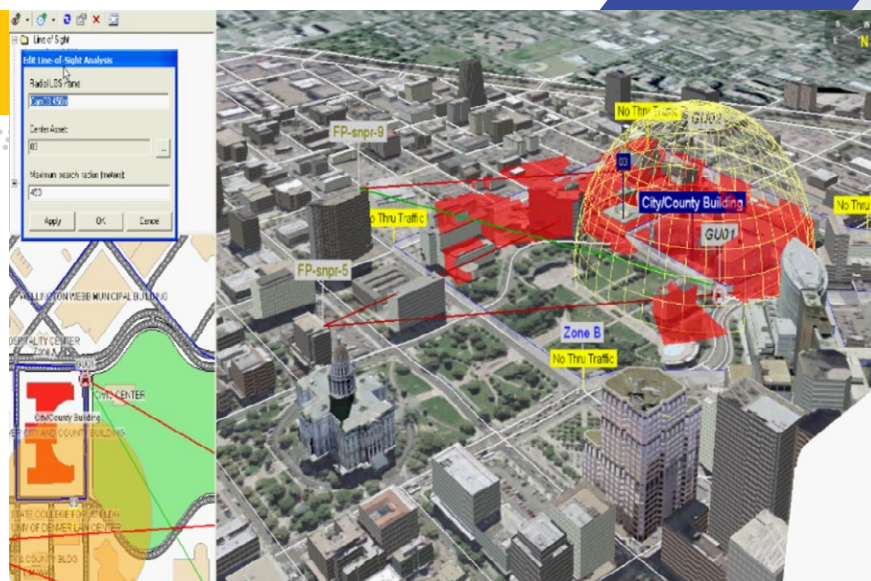

Figure 7: The use of a digital twin in operation planning related to the City and County Building, Denver, Colorado.
- **Emergency response**—A digital twin provides the X, Y, Z location for 9-1-1 responders and is especially valuable in high-rise or multi-unit complexes. It can aid in coordinating evacuation plans, real-time video surveillance, operation planning for coordination/line-of-sight analysis/dissemination, and crime analysis (**Figure 7**).